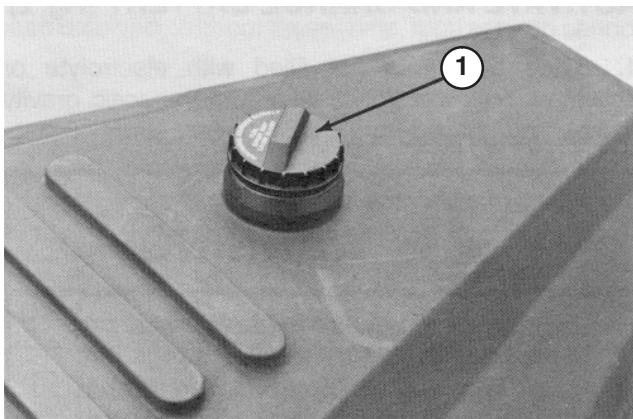

Figure 4
1. Remove the cap from the fuel tank (Fig. 4) and fill the 10 gallon tank to about 1 inch (25 mm) from the top of tank (the bottom of the filler neck) with unleaded gasoline. Install the fuel tank cap tightly.